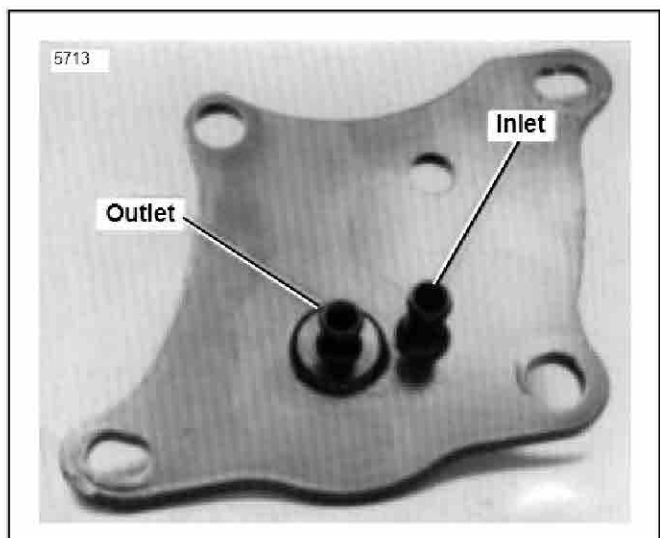

Figure 4. Oil Filter Fittings - Late 1982 to Early 1984 (Generator Equipped)
4. See Figure 4. Connect 9 in. hose to inlet fitting on oil filter mount and outlet fitting on oil cooler. Secure with small clamps from kit.